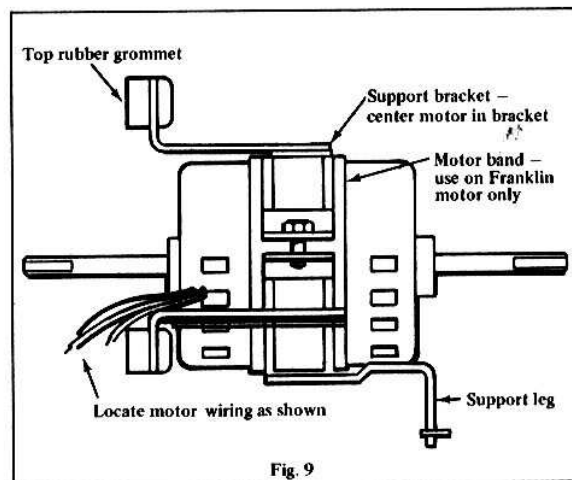

Fig. 9
7. Remove motor from support bracket and insert new motor in place, keeping motor centered in bracket and motor leads at same location. See Figure 9.
Note: In order to position the Franklin motor correctly, a 1/16" thick band is placed around the shell of the motor for spacing. The G.E. and Marathon motors do not require this band. See Figure 9.